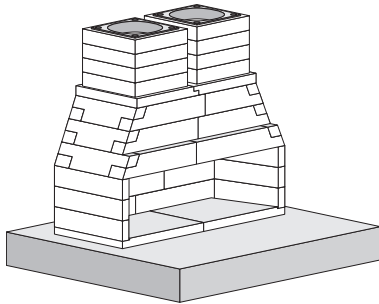

FIGURE 4.1
1. **Concrete Slab (Figure 4.1)**